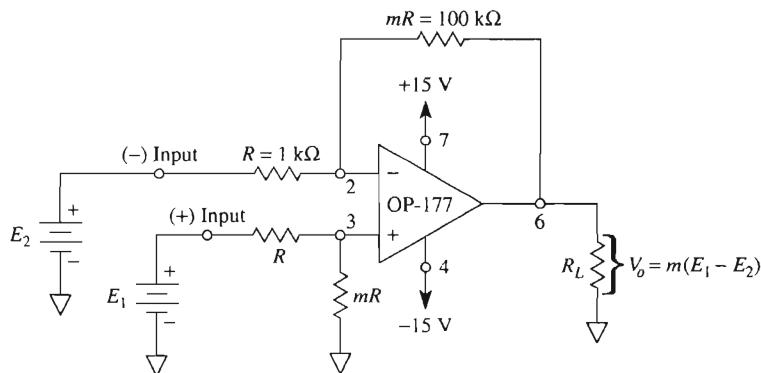
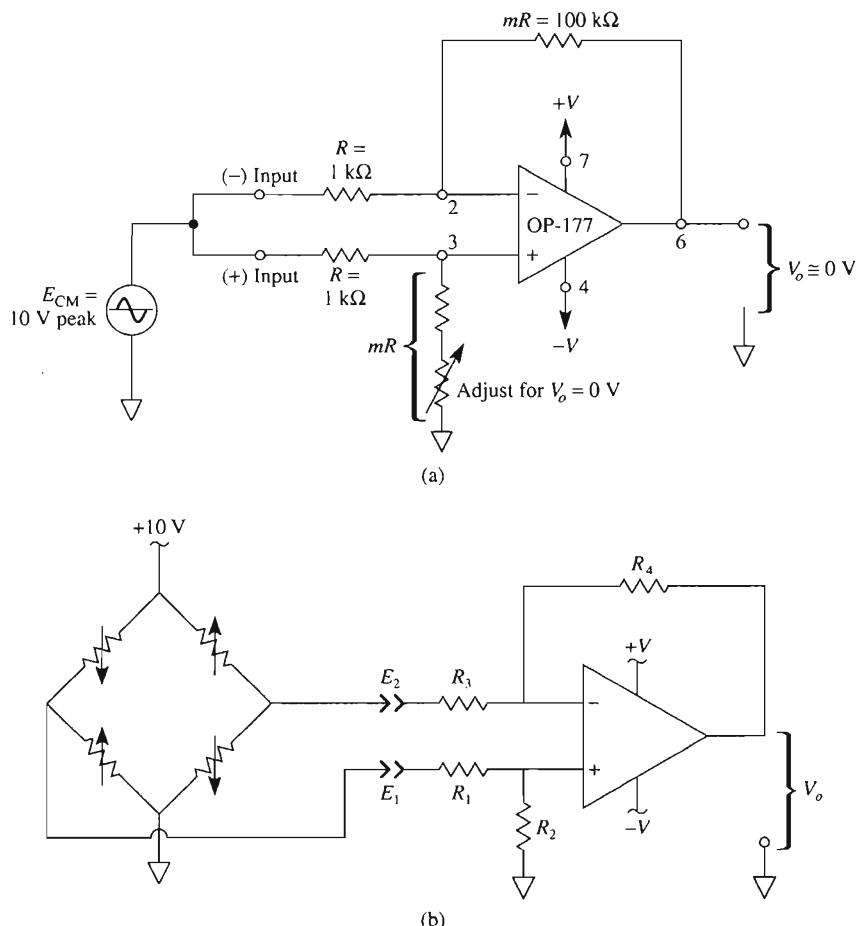
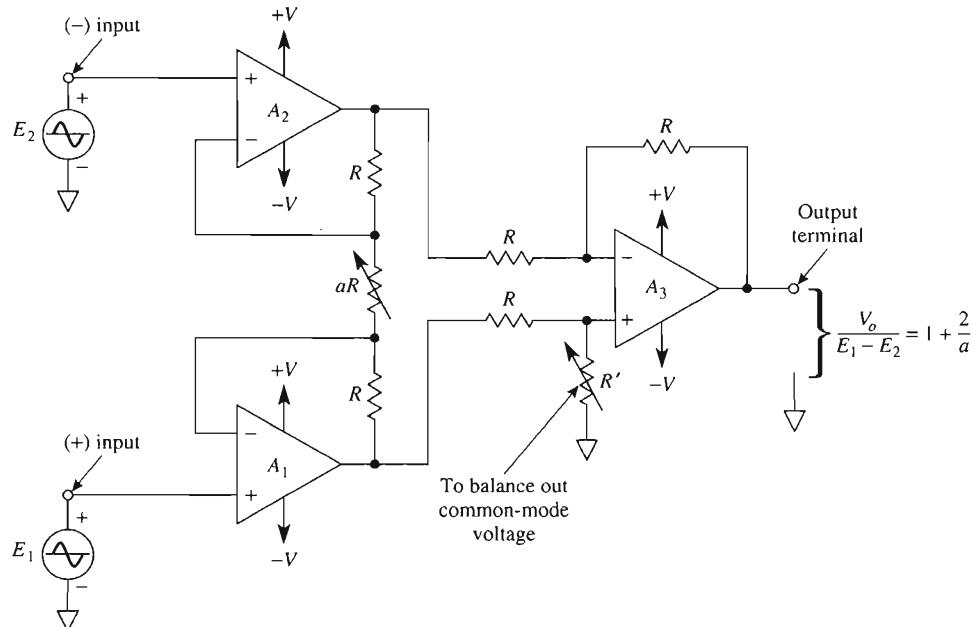

FIGURE 8-1 Basic differential amplifier (subtractor circuit).
FIGURE 8-2 (a) The common-mode voltage gain should be zero. (b) Basic differential amplifier connected to a Wheatstone bridge.
FIGURE 8-6 Basic instrumentation amplifier model.
Four precision (1%) resistors and an op amp make up a differential amplifier, as shown in Fig. 8-1. There are two input terminals, labeled (−) input and (+) input, corresponding to the closest op amp terminal. If E_1 is replaced by a short circuit, E_2 sees an inverting amplifier with a gain of $-m$. Therefore, the output voltage due to E_2 is $-mE_2$. Now let E_2 be short-circuited; E_1 divides between R and mR to apply a voltage of $E_1m/(1+m)$ at the op amp's (+) input. This divided voltage sees a noninverting amplifier with a gain of $(m+1)$. The output voltage due to E_1 is the divided voltage, $E_1m/(1+m)$, times the noninverting amplifier gain, $(1+m)$, which yields mE_1 . Therefore, E_1 is amplified at
In Fig. 8-1, the differential gain is found from
Refer to the basic differential amplifier circuit in Fig. 8-2(b). The difference voltage, $E_1 - E_2$, may be defined as input difference signal voltage, E_{ds} , and the average of the two inputs, $(E_1 + E_2)/2$, is defined as the common mode voltage, E_{cm} . In this circuit, the differential amplifier is being used to measure the voltage difference between the two output nodes of a Wheatstone bridge.
For the circuit of Fig. 8-2(b), the bridge is slightly unbalanced and the input voltages with respect to ground are $E_1 = 5 \text{ V} + 2 \text{ mV}$ and $E_2 = 5 \text{ V} - 2 \text{ mV}$. Determine (a) the input signal voltage and (b) the common mode voltage.
Referring to the circuit in Fig. 8-2(b) and using the superposition principle discussed in Section 8-1, the general equation for output voltage is
In this application, we have discussed only the common-mode rejection of the circuit and considered the op amp to be ideal. A disadvantage with the basic differential amplifier circuit in Fig. 8.2(b) is that a slight mismatch of the resistors causes a degradation of the CMR. In this example, the mismatch was R_2 , but a more common mismatch is the input resistors R_1 or R_3 because of loading effect(s). A solution to this problem will be covered in Section 8-3.
A differential amplifier is used to measure only the signal voltage (see Fig. 8-4). The signal voltage E_i is connected across the (+) and (-) inputs of the differential amplifier. Therefore, E_i is amplified by a gain of -100 . Noise voltage E_n becomes the common-mode voltage input voltage to the differential amplifier as shown in Fig. 8-2. (Note: Apply superposition.) Therefore, the noise voltage is *not* amplified and has been effectively eliminated from having any significant effect on the output V_o , as long as the resistors are matched as shown.
There are two disadvantages to the basic differential amplifier studied thus far: It has low input resistance, and changing gain is difficult because the resistor ratios must be closely matched. The first disadvantage is eliminated by *buffering* or isolating the inputs with voltage followers. This is accomplished with two op amps connected as voltage followers in Fig. 8-5(a). The output of op amp A_1 with respect to ground is E_1 , and the output of op amp A_2 with respect to ground is E_2 . The differential output voltage V_o is developed across the load resistor R_L . V_o equals the difference between E_1 and E_2 ($V_o = E_1 - E_2$). Note that the output of the basic differential amplifier of Fig. 8-1 is a single-ended output; that is, one side of R_L is connected to ground, and V_o is measured from the output pin of the op amp to ground. The buffered differential amplifier of Fig. 8-5(a) is a differential output; that is, neither side of R_L is connected to ground, and V_o is measured only across R_L .
The instrumentation amplifier (IA) is one of the most useful, precise, and versatile amplifiers available today. You will find at least one in every data acquisition unit. The basic IA is made from three op amps and seven resistors, as shown in Fig. 8-6. To simplify circuit analysis, note that the instrumentation amplifier is actually made by connecting a buffered amplifier [Fig. 8-5(b)] to a basic differential amplifier (Fig. 8-1). Op amp A_3 and its four equal resistors, R , form a differential amplifier with a gain of 1. Only the A_3 resistors have to be matched. The primed resistor, R' , can be made variable to balance out any common-mode voltage, as shown in Fig. 8-2. Only *one resistor*, aR , is used to set the gain according to Eq. (8-6), repeated here for convenience:
In Fig. 8-6, $R = 25 \text{ k}\Omega$ and $aR = 50 \Omega$. Calculate the voltage gain.
If aR is removed in Fig. 8-6 so that $aR = \infty$, what is the voltage gain?
In Fig. 8-6, the following voltages are applied to the inputs. Each voltage polarity is given with respect to ground. Assuming the gain of 1001 from Example 8-3, find V_o for (a) $E_1 = 5.001 \text{ V}$ and $E_2 = 5.002 \text{ V}$; (b) $E_1 = 5.001 \text{ V}$ and $E_2 = 5.000 \text{ V}$; (c) $E_1 = -1.001 \text{ V}$, $E_2 = -1.002 \text{ V}$.
In some signal conditioning applications, it is desirable to offset the output voltage to a reference level other than 0 V. (For example, it would be convenient to position a pen on a chart recorder or an oscilloscope trace at a level other than zero.) This can be done quite easily by adding a reference voltage in series with one resistor of the basic differential amplifier. Assume that E_1 and E_2 are set equal to 0 V in Fig. 8-6(a). The outputs of A_1 and A_2 will equal 0 V. Thus, we can show the inputs of the differential amplifier, A_3 as 0 V in Fig. 8-7(a).
(a) Op amp 3 of the IA in Fig. 8-6 has its "normally grounded" terminal brought out; the new terminal is called "reference terminal," R .
The versatility and performance of the instrumentation amplifier in Fig. 8-6 can be improved by breaking the negative feedback loop around op amp A_3 and bringing out three terminals. As shown in Fig. 8-8, these terminals are *output* terminal 0, *sense* terminal S , and *reference* terminal R . If long wires or a current-boost transistor are required between the instrumentation amplifier and load, there will be voltage drops across the connecting wires. To eliminate these voltage drops, the sense terminal and reference terminal are wired *directly to the load*. Now, wire resistance is added equally to resistors in series with the sense and reference terminals to minimize any mismatch. Even more important, by sensing voltage at the load terminals and *not* at the amplifier's output terminal, feedback acts to hold load voltage constant. If only the basic differential amplifier is used, the out-